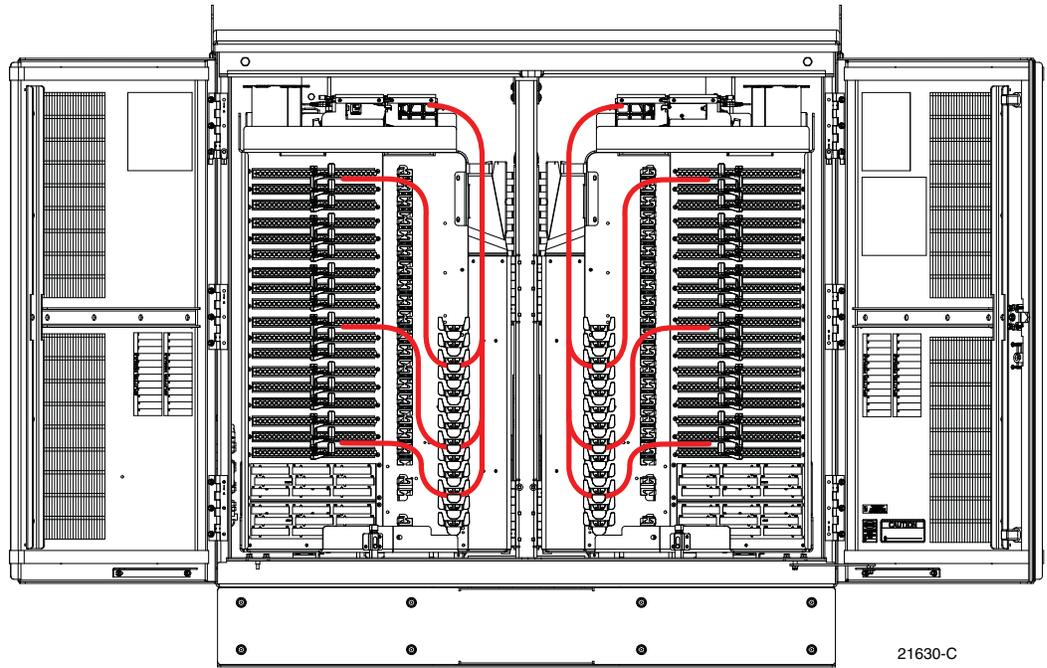
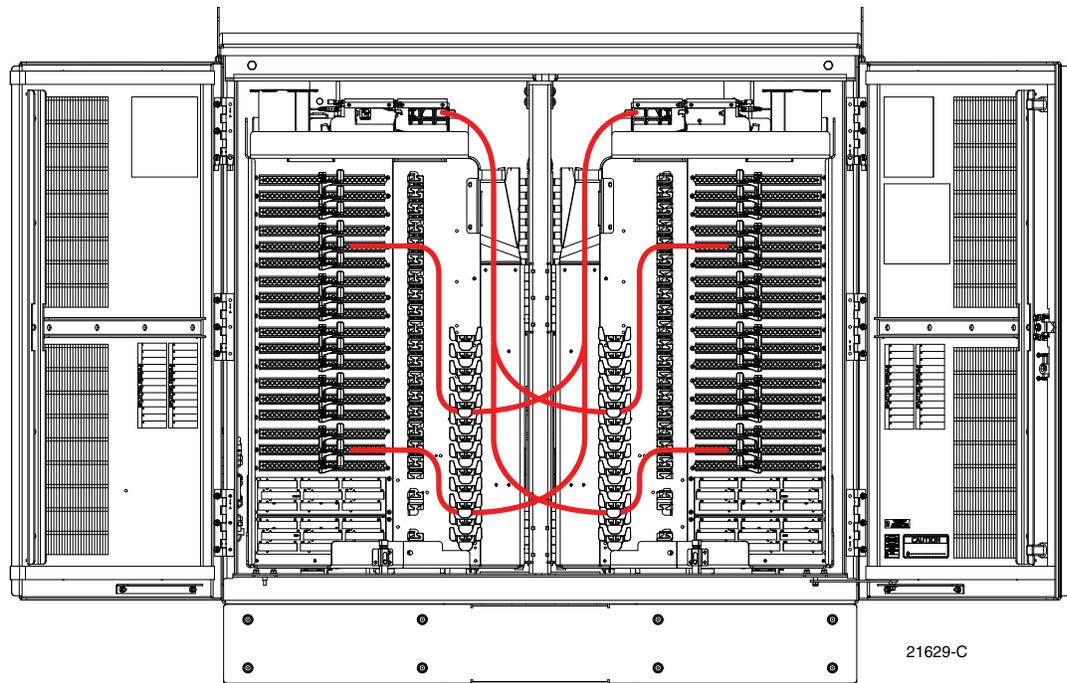

Figure 31. Routing Splitter Output Fibers - Splitter and Distribution Port on Same Side of Cabinet
Figure 32. Routing Splitter Output Fibers - Splitter and Distribution Port on Opposite Sides of Cabinet
6. Use the radius limiters to store any excess fiber slack. When the splitter and the distribution port are located on the same side of the cabinet (same swing frame), refer to Figure 31 for the routing guidelines. When the splitter and the distribution port on opposite sides of the cabinet (opposite swing frames), refer to Figure 32 for the routing guidelines.